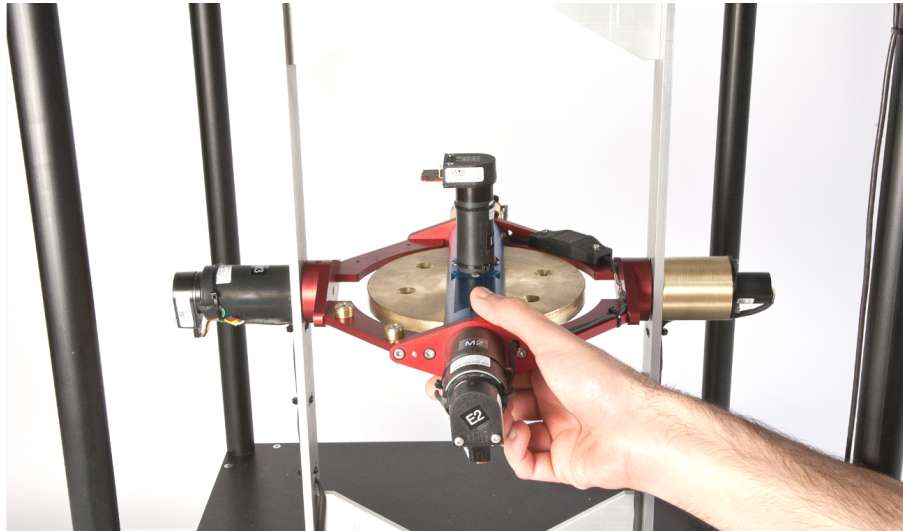

Figure 3.5: Holding the blue and red gimbals
2. You will need to gently hold on to the blue and red gimbals and keep them in place for the first few seconds after the VI has started running while the flywheel speeds up to the required RPM as shown in Figure 3.5